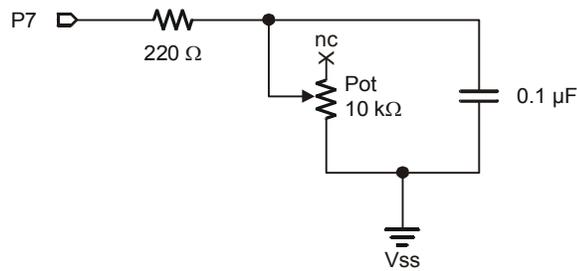
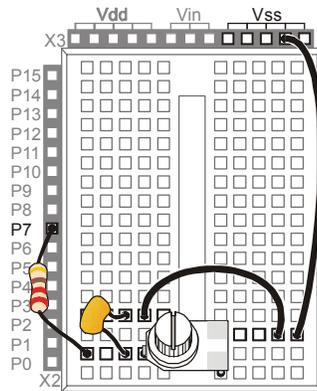

Figure 5-11
Figure 5-12
Figure 5-11 shows a schematic for the fast RC-time circuit, and Figure 5-12 shows the wiring diagram. This is the circuit that you will use to monitor the position of the potentiometer's input shaft with the help of the BASIC Stamp and a PBASIC program.
√ Build the circuit shown in Figure 5-11.
- √ Leave your potentiometer RC-time circuit from Activity #3 on your prototyping area. If you need to rebuild it, use Figure 5-11 on page 146 and Figure 5-12 on page 147. Make sure to use the 0.1 μ F capacitor, not the 0.01 μ F capacitor.